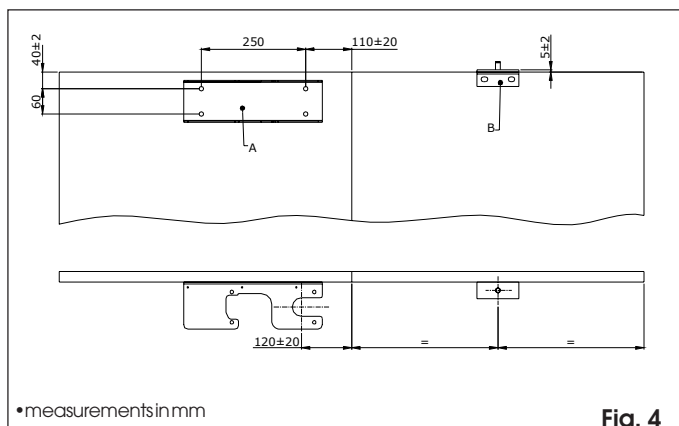

Fig. 4
- 2) Put the base plate A on the panel, observing the dimensions as indicated in fig. 4 and weld or attach it to the panel using 4 screws.
- 3) Find the position halfway on the second panel and install the angle bar with pin B. Then weld or attach it using 2 screws while following the dimensions show in fig. 4.